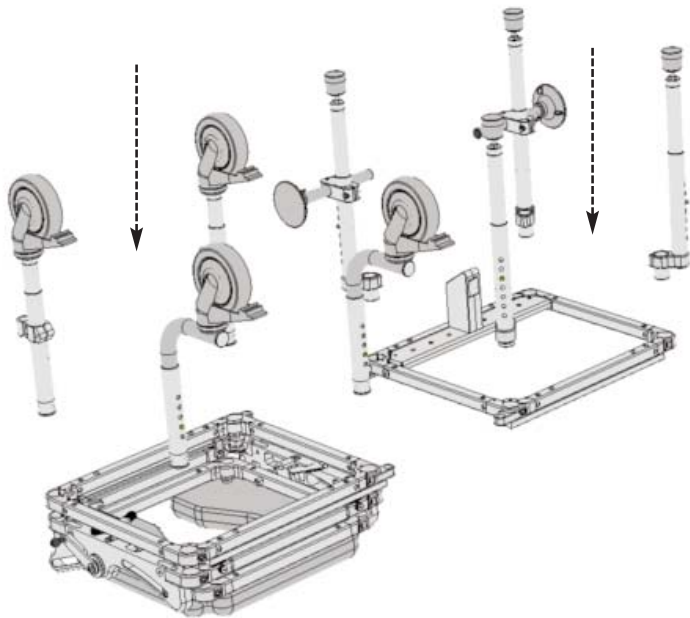

Figure 1
**A** The multiCHAIR 6000Tilt, 6200Tilt, 6000Tilt P1, and 6000Tilt P2 are composed of three sections: the **roll-in section** with (2) straight legs & 5" casters, (2) bent legs & 5" casters, the **connector bridge section**, and the **tub section** which has non-pinned offset legs and adjusting feet. The chair is shipped standard with the tub section positioned on the user's left side. Unpack all parts from the shipping carton.
**C** Position the frames upside down and install the legs (Refer to Figure 1)